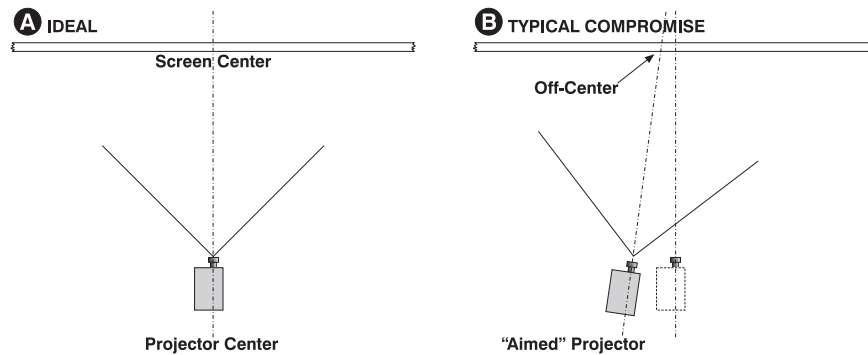

Figure 2-1 Position the Projector
1. Position the projector at an appropriate throw distance (projector-to-screen distance) and vertical position. Ideally, center the projector with the theatre screen. If competing for space with an already present film projector, aim the projector slightly off-center as shown in **Figure 2-1**. This will slightly increase side keystone, but will minimize the horizontal lens offset required.